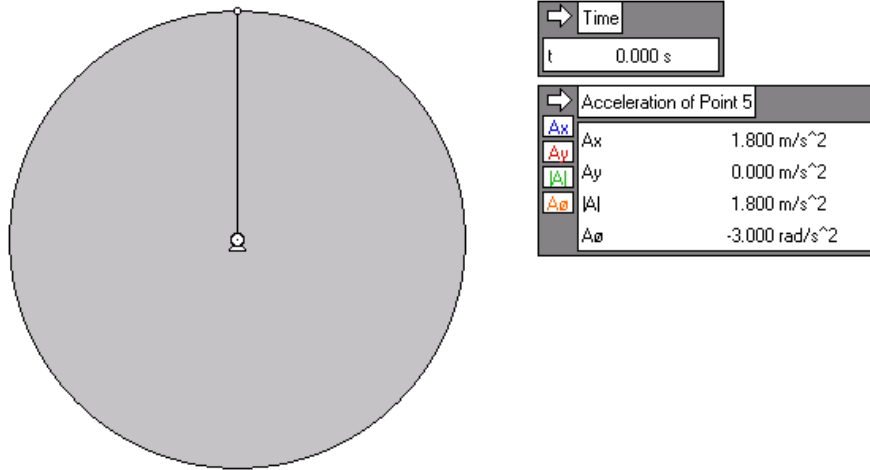
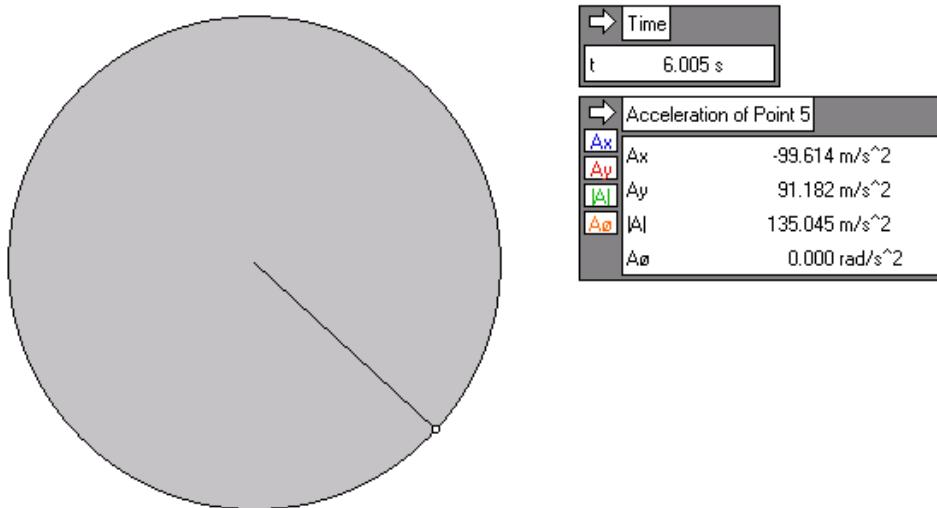

Figure 5
Figure 6
16. Check your answers with $t=0$ and $t=6$ results shown in Figure 5 and Figure 6, respectively.